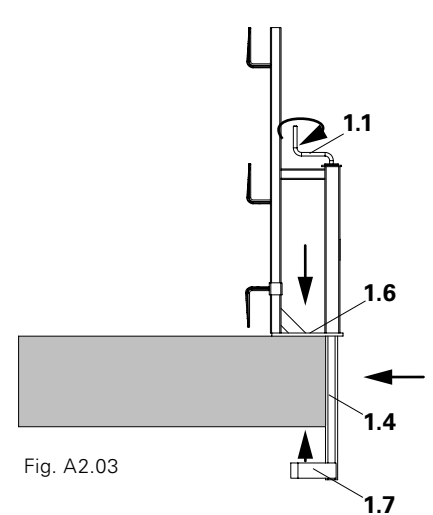

Fig. A2.03
- Clamping tube (1.4) retracts. (Fig. A2.03)
- The clamping tube (1.4) must lie flat on the slab edge. (Fig. A2.03)
- The stirrup (1.7) must lie completely flat. (Fig. A2.03)